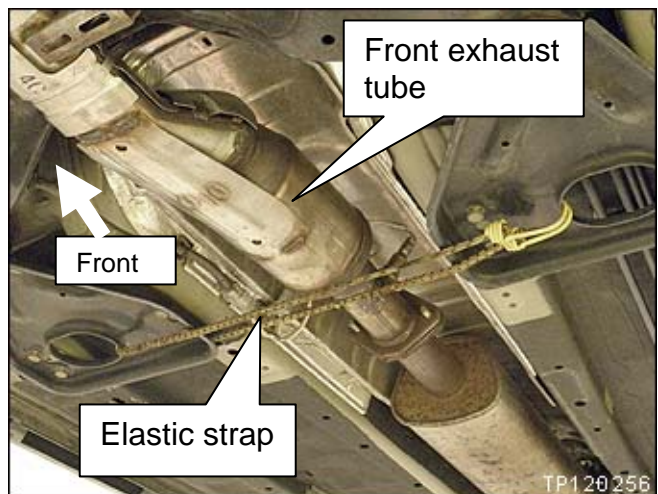

Figure P5
8. Attach an elastic strap (or other suitable support) under the rear of the front exhaust tube (see Figure P5).